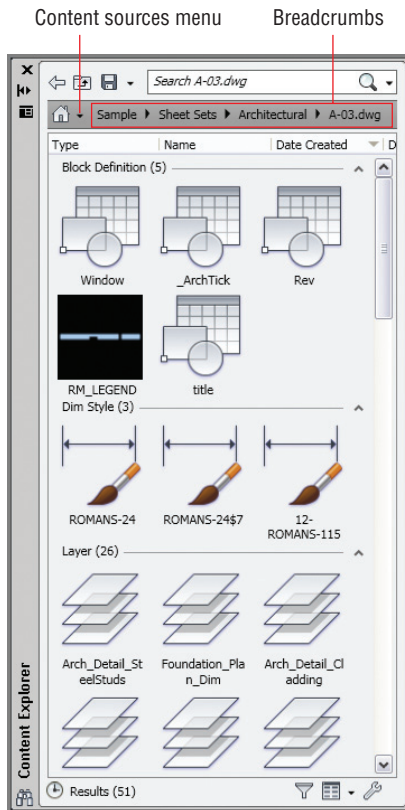

FIGURE 9.16 Content Explorer showing content within a specific drawing
5. Double-click the Sample folder that appears in the Content Explorer. Then double-click Sheet Sets, Architectural, and A-03.dwg. The Content Explorer shows all the block references, block definitions, layers, layouts, and styles present in the drawing (see Figure 9.16).